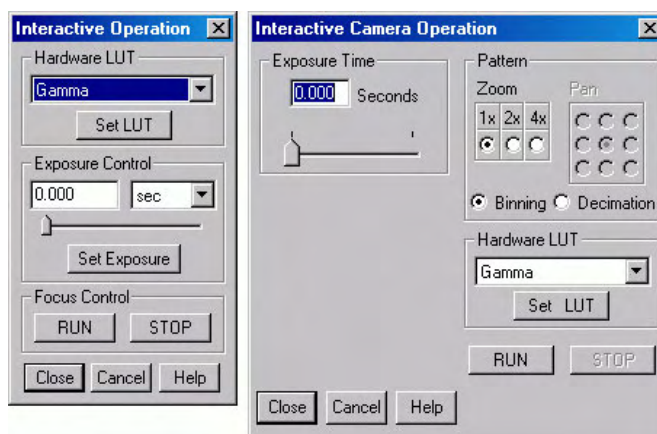

Figure 35. PentaMAX Interactive Operation dialog box
2. Select **Video Focus** from the Acquisition Menu. The Interactive Operation dialog box that will be displayed depends on the PentaMAX version. Version 5 and higher will display the righthand dialog box shown in Figure 35. Earlier versions, display the lefthand dialog box.